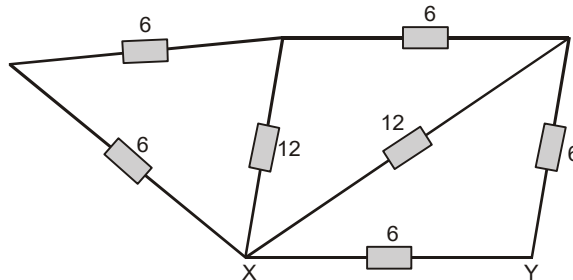

Fig. 1.142
- Calculate the resistance between the points X and Y in network shown in fig. 1.142. All the resistors are given in ohms.